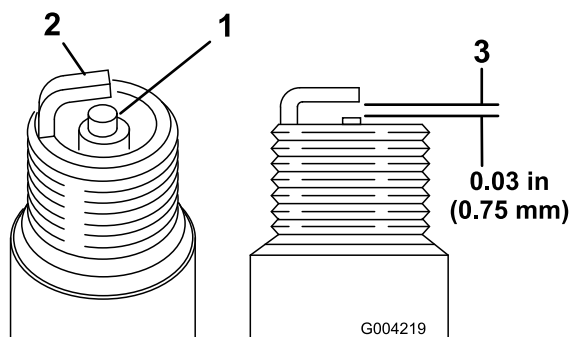

Figure 32
1. Look at the center of both spark plugs (Figure 32). If you see light brown or gray on the insulator, the engine is operating properly. A black coating on the insulator usually means the air cleaner is dirty.
2. Check the gap between the center and side electrodes (Figure 32).
3. Bend the side electrode (Figure 32) if the gap is not correct.